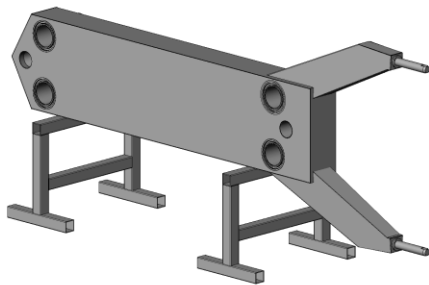

Figure 6-1
1. Place the fixed end assembly on the two 19" jack stands (see figure 6-1). The jack stands should be located near the ends of assembly as shown.